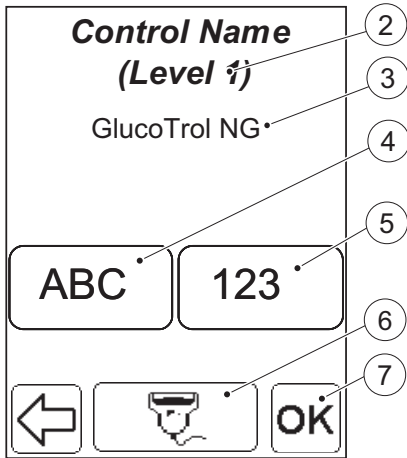

FIGURE 3-8
If the Confirm button is repeatedly pressed through FIGURE 3-8 to FIGURE 3-11, no changes will be effected.
- a) To choose the Liquid Control specification that is to be viewed/changed, highlight the Liquid Control specification by pressing the Scroll bar arrows (1). Press the View button (2). By pressing repeatedly on the confirm button, *FIGURE 3-8* to *FIGURE 3-12* will be displayed. Press the Save button to store any changes made and return to the Liquid Controls List.